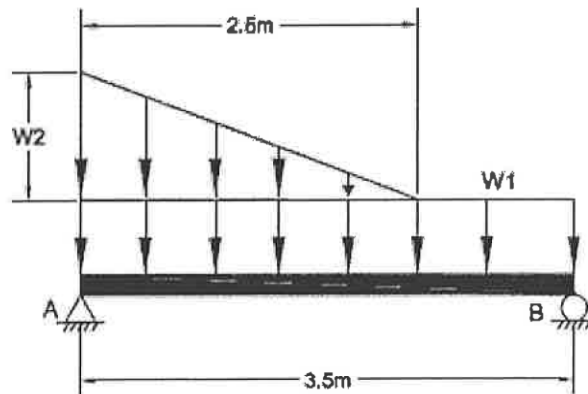

FIGURE C1
- C1. Design the wood beam shown in Figure C1 assuming it is in a wet condition and is to be made using standard dimensional lumber (built-up members). Assume the beam is repeated along the length of a building at a spacing of 1.2m.